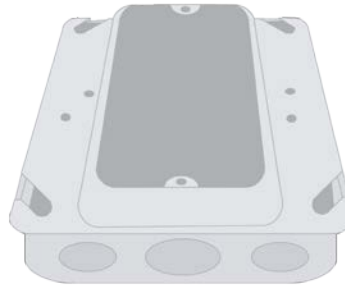

Figure 3: Vertical Single Gang Mud Ring
Step 1 Ensure the JBOX has been installed with a vertical single gang mud ring. See Figure 3.